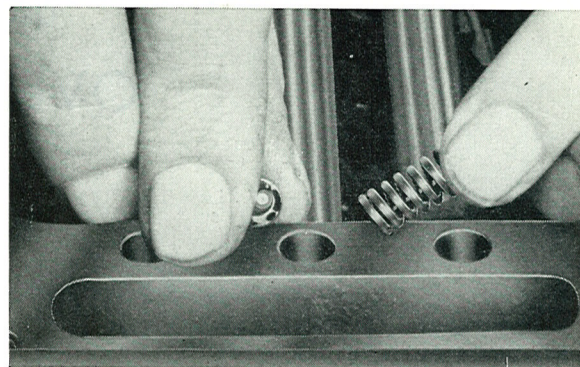

Fig. 4-42. Fitting interlock balls and springs
9. Place the interlock balls and springs in position, see Fig. 4-42. Fit on the gearbox cover. Check that all the gears engage and disengage freely.